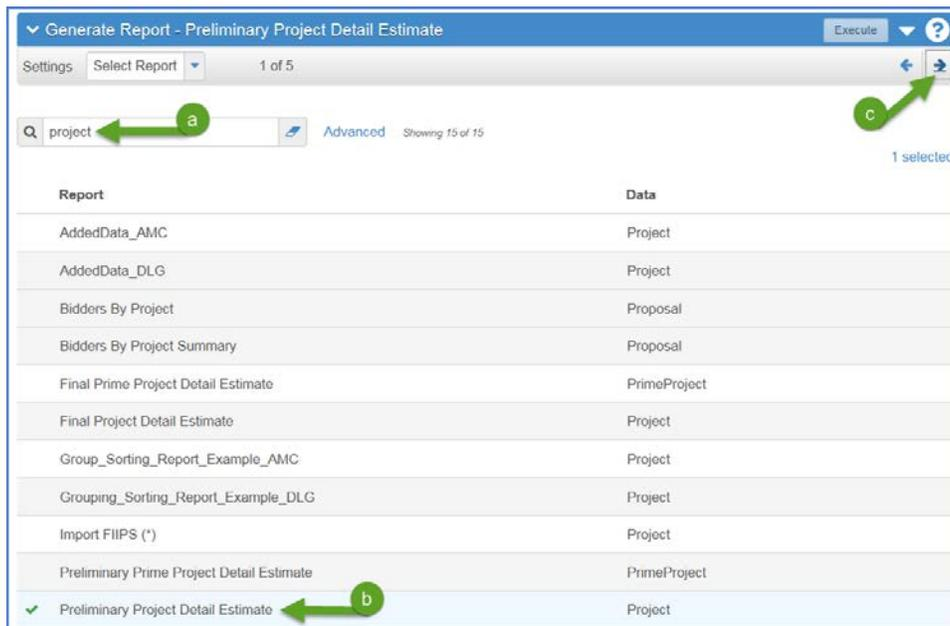

Figure 17
2. On Generate Report, Page 1 of 5 (*Figure 17*):